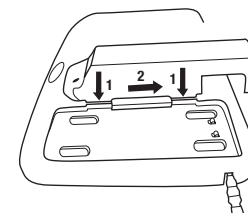

Fig. 1b
- Insert the TR-340 into one of the charging ports on the TR-944N and slide back to lock into place (Fig. 1b).